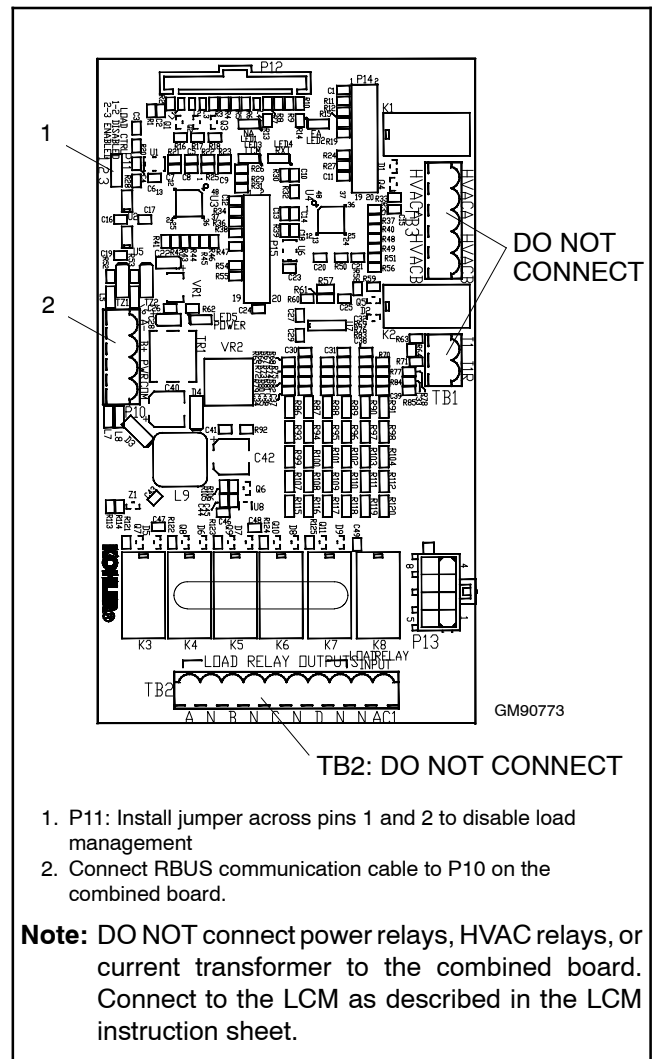

Figure 4-21 Combined Interface/ Load Management Board Connections with LCM
- Verify that the P11 jumper on the combined interface board is connected across terminals 1 and 2, which disables the load management function on the interface board. See Figure 4-21.
7. See Figure 4-21. Move the P11 jumper from terminals 2 and 3 to terminals 1 and 2 to disable the load management function on the combined board.
8. Connect RBUS communication cable to the combined interface board: Connect the generator controller's interface connection to A, B, PWR, and COM on terminal block P10 on the interface/load management board. See Figure 4-21. See Section 4.4 for detailed RBUS connection instructions.
- b. Connect the current transformer (CT) to the LCM. Do not connect the CT to the combined interface board in the RXT enclosure.